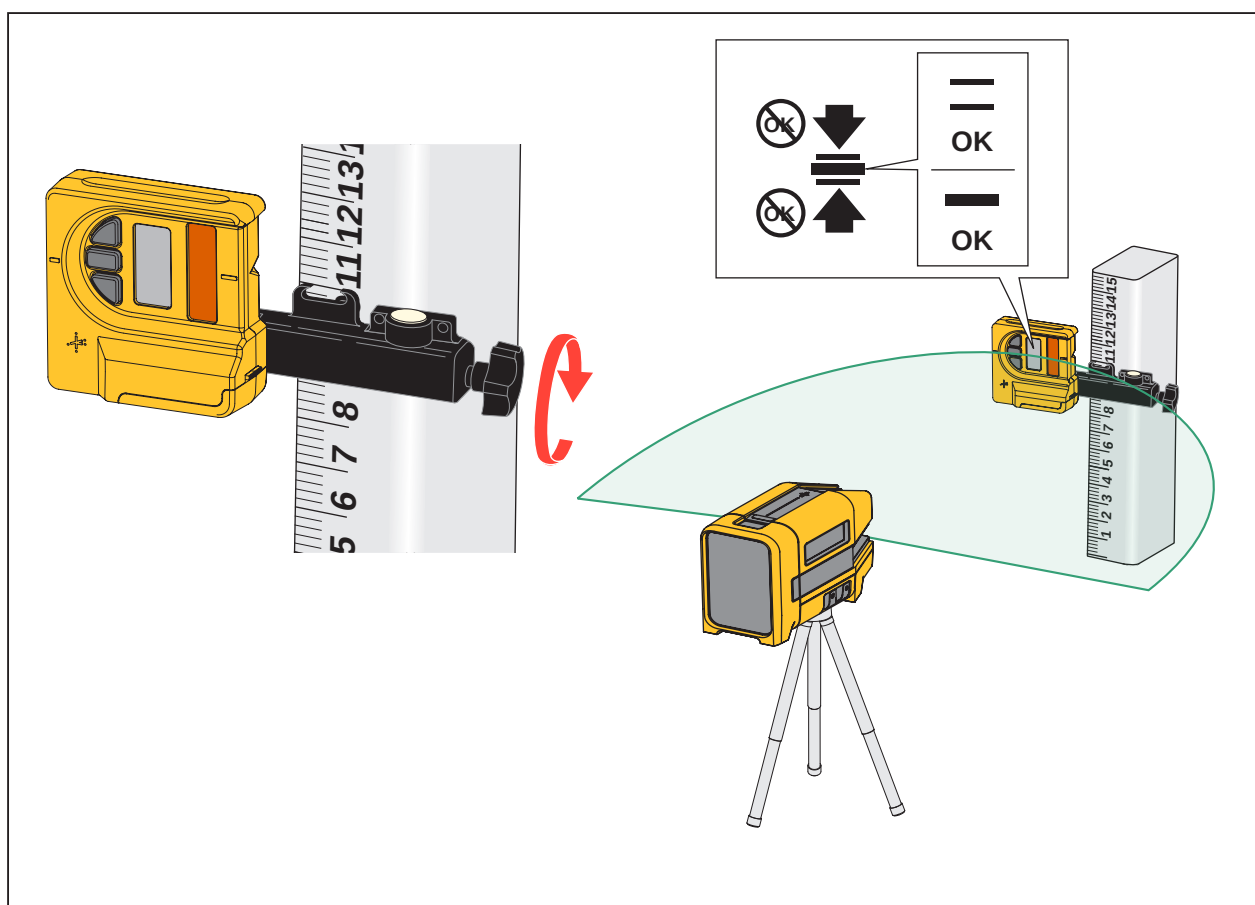

Figure 2. Level and Detector
3. Turn on the laser level and the Detector and direct the laser beam toward the laser reception window of the Detector. See Figure 2.